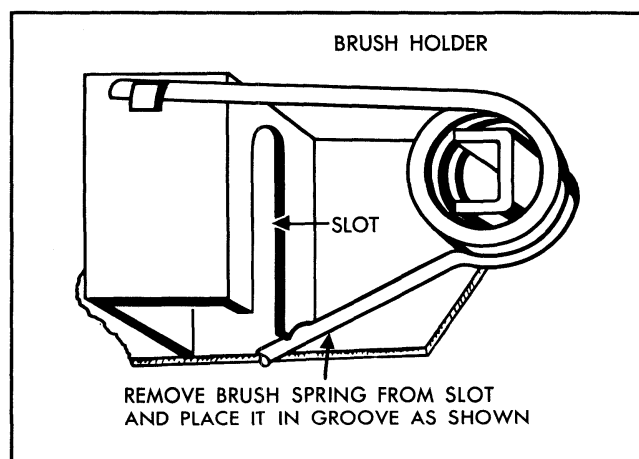

Fig. 11-90 Brush Spring
c. Brush springs improperly positioned (See Fig. 11-90).
3. Release brush spring pressure against brushes as shown in Fig. 11-90.